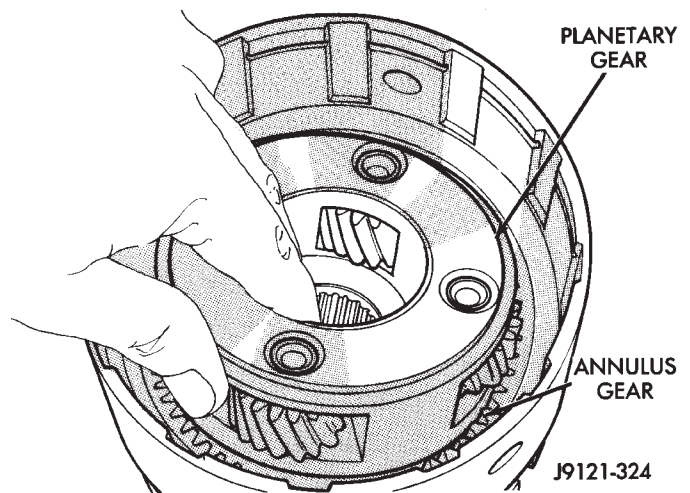

Fig. 43 Installing Planetary Gear
(13) Install planetary gear in annulus gear (Fig. 43). **Be sure planetary pinions are fully seated in annulus gear before proceeding.**